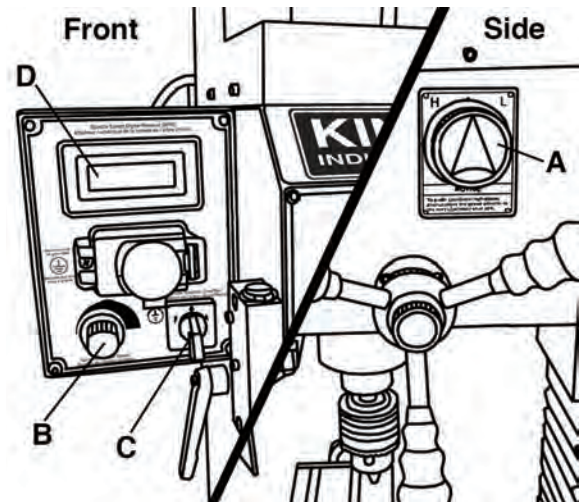

FIGURE 10
- 1) Select the appropriate speed range using the high/low speed selector (A) Fig.10. The "H" or high on the speed selector stands for high speed range (100-2250 RPM), the "L" or low on the speed selector stands for low speed range (50-1125 RPM).
- 2) Turn the spindle variable speed dial (B) Fig.10 all the way to the left (slowest position), then press the green "On" button to turn the machine on.
- 3) Set the spindle travel direction using the forward/reverse switch (C) Fig.10.
- 4) Turn the spindle variable speed dial (B) Fig.10 clockwise to increase the spindle speed, watch the spindle RPM digital readout (D) and adjust until desired speed is reached.